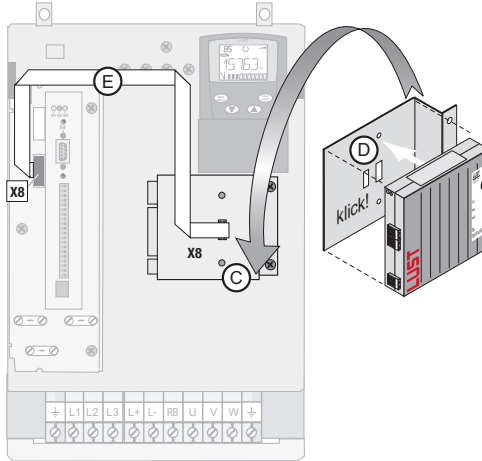

Fig. 2
On drive unit sizes **BG6 ... BG 8** the UM-2AO module is connected on the front [see Fig. 2 (C)].
3. Click the module into the mounting bracket. For position and orientation see Fig. 2 (D). The bracket is a component of the mounting set MP-UMCM,x.
4. Screw the bracket onto the top mounting; see Fig. 2 (C). The UM-2AO module is thereby placed on its head and the rear of the module is facing forwards.
5. Connect the module with the ribbon cable as per Fig. 2 (E) (with MP-UMCM,2.0 plug Z onto X8). The bracket is a component of the mounting set MP-UMCM,x.